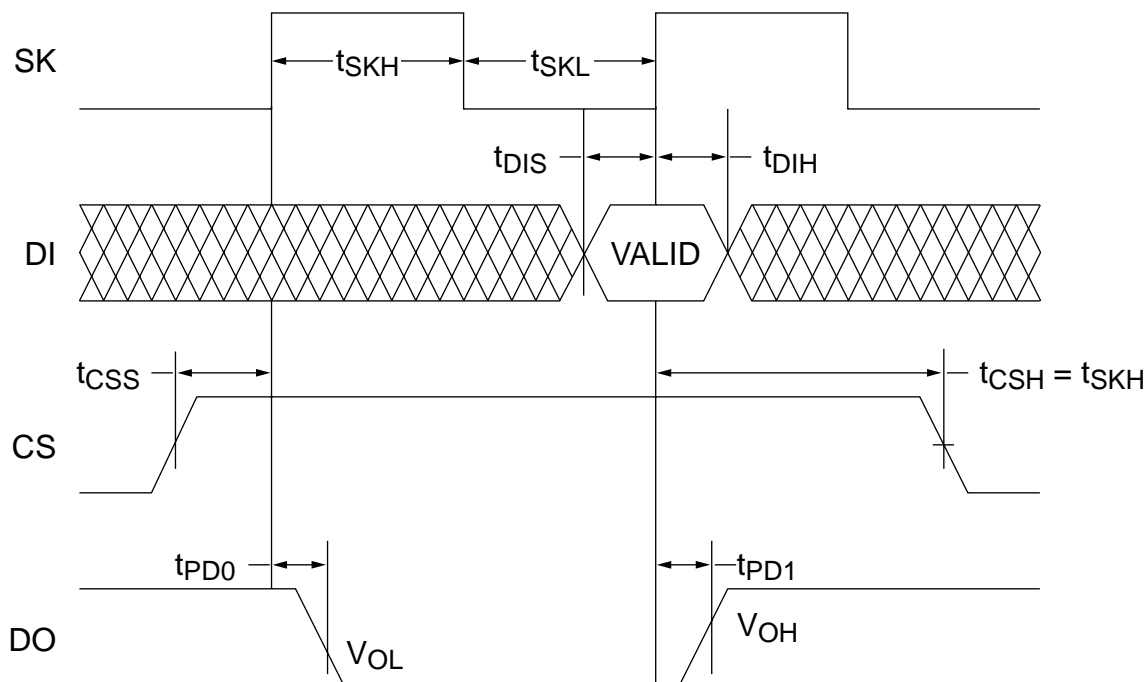

FIGURE 7. Synchronous Timing
The synchronous data timing shown in Figure 7 is similar to that shown in the various datasheets. There is one significant modification to the timing specification though, the chip select (CS) hold time is referenced to the rising edge of the clock rather than the falling edge. With this modification, the hold time specification